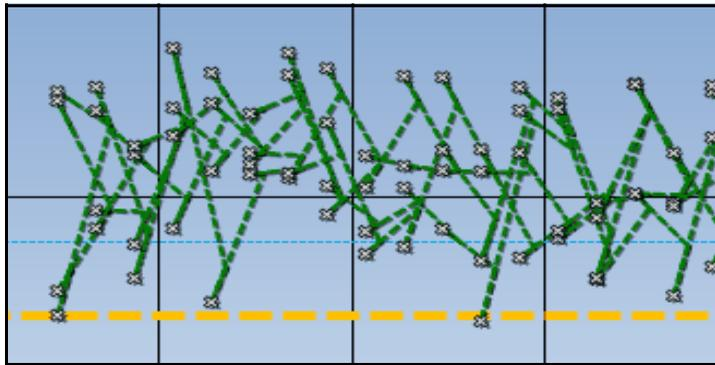

Figure 63: Graph without Markers
- Click on the Show Marker checkbox  **SHOW MARKER** to enable the chart to display the marker. A graph without markers appears similar to Figure 63 on the next page.